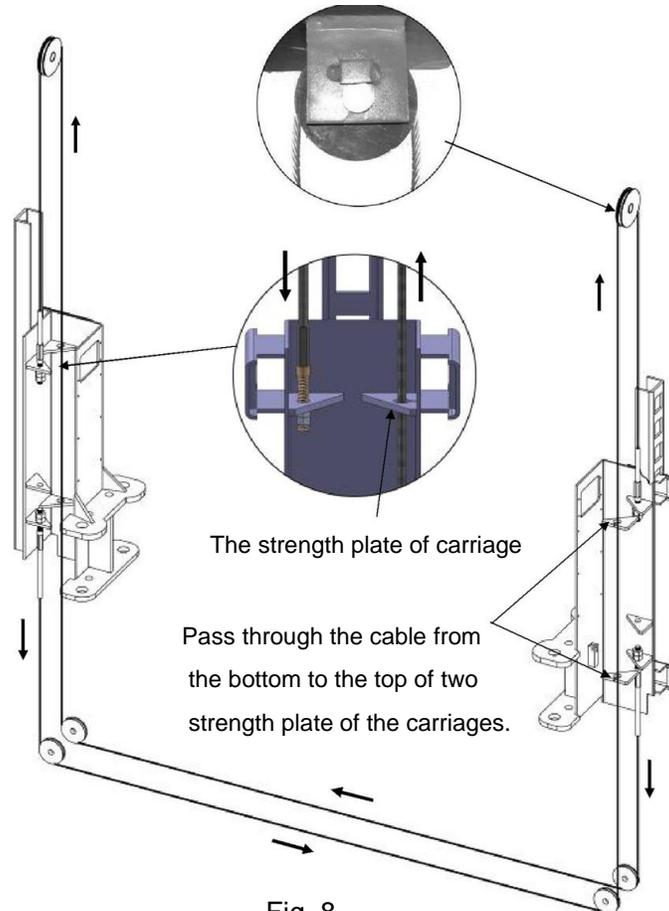

Fig. 8
- With the carriages in equal height, fit the cable end-ups through the small holes of the carriages (ref. fig. 8);
- Route the equalizer cables referring to the diagram (fig. 8). Make sure the cables in the place on the pulleys. Make sure the cables routed properly;